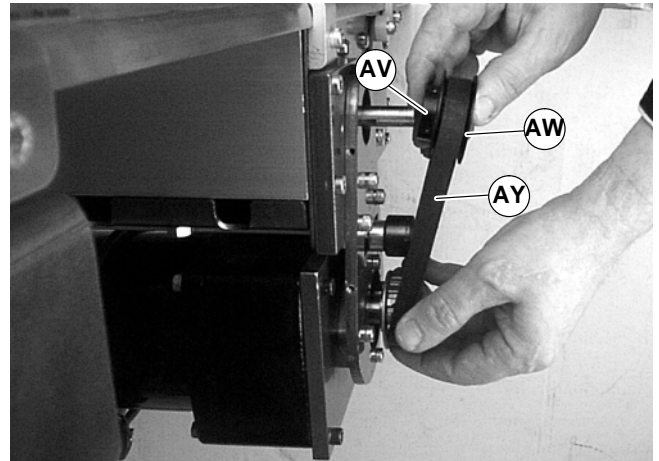

Figure 24
NOTE: If the timing belt does not slide over the pulley flange, loosen the driven pulley set screws (AV of Figure 24) and remove the pulley (AW) with the belt (AY).